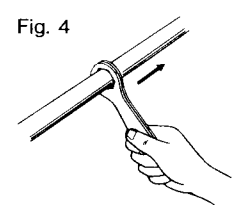

Fig. 4
- 4) After fastening the bracket, pull out the wrenches from the outershells as shown in Fig. 4.